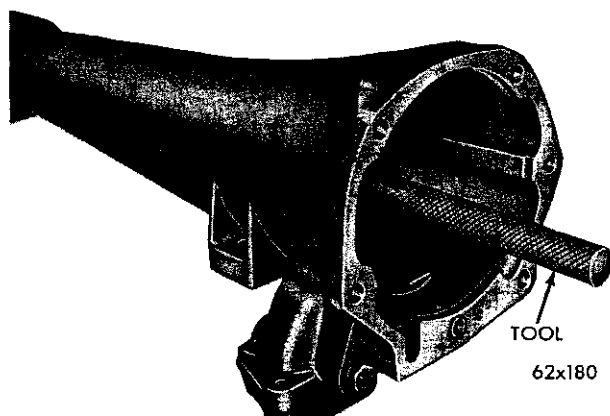

Fig. 35—Removing Output Shaft Bearing
(1) Pry or drive the oil seal out of the extension housing with a long blunt drift. Be sure not to mar the oil seal surface in the housing.
(2) Remove the bearing snap ring from the extension housing. Drive the bearing rearward out of the housing with Tool C-3275 (Fig. 35).